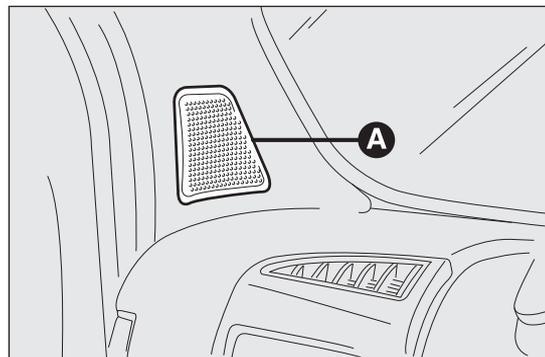

fig. 139
- 2 tweeters A located in the front doors (30 W max power each) fig. 139;